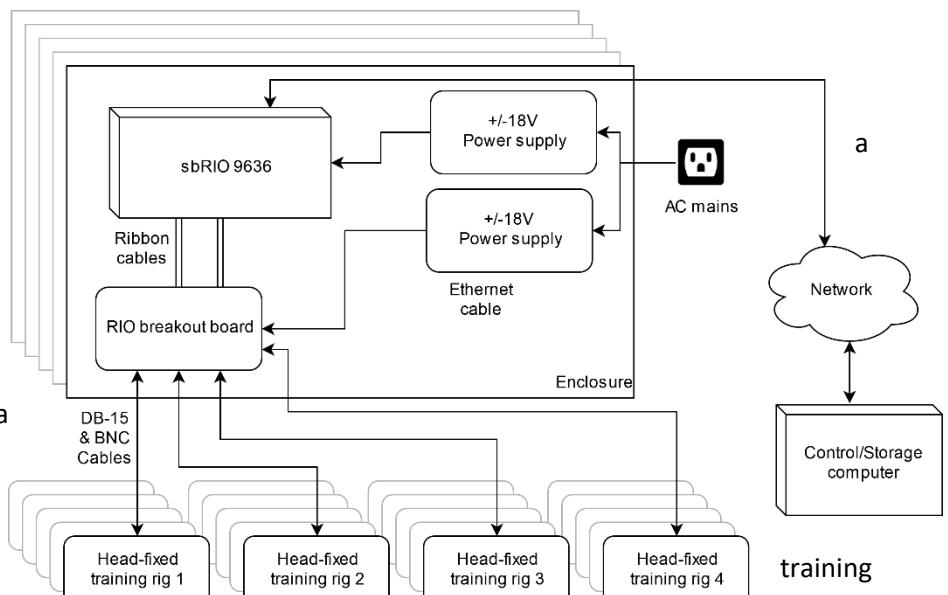
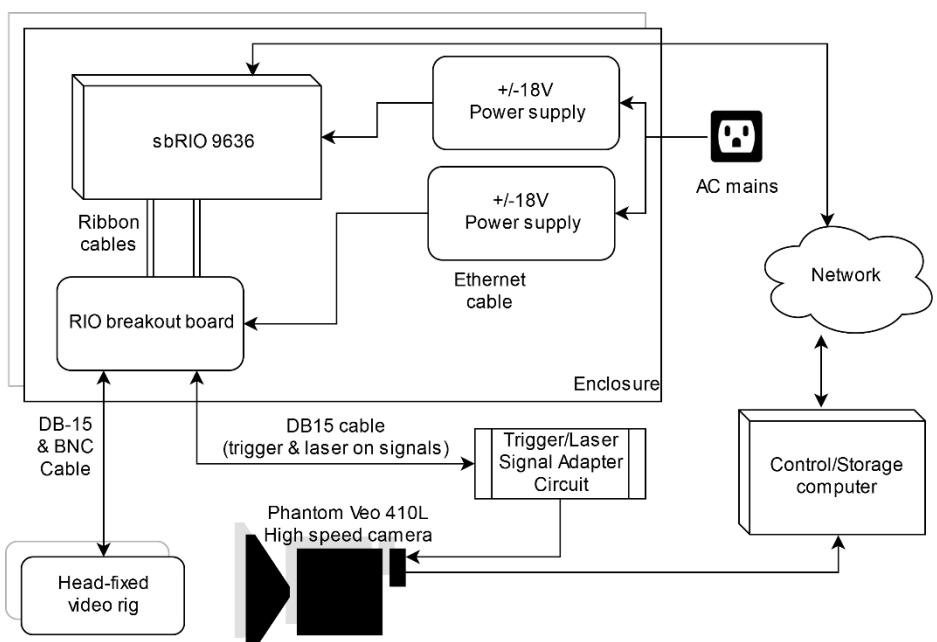

Figure 78 DAQ system schematic for head-fixed training (not video) rigs, showing half of what can fit in one enclosure
Figure 79 DAQ system schematic for head-fixed video rig, showing half of what can fit in one enclosure
The data acquisition system consists of single-board RIO DAQ from National Instruments, which has a large array of digital and analog input/output (IO) channels, a custom PCB that protects and distributes those channels, an enclosure for the DAQ, DB-15 cables to connect the DAQ to each home cage, and a control/storage computer which controls the DAQ via LabVIEW software, and stores the sensor data it receives. Each DAQ system can host up to eight head-fixed rigs, or two high speed video head-fixed rigs. See Figure 78 for the training rig schematic, and Figure 79 for the video rig schematic.